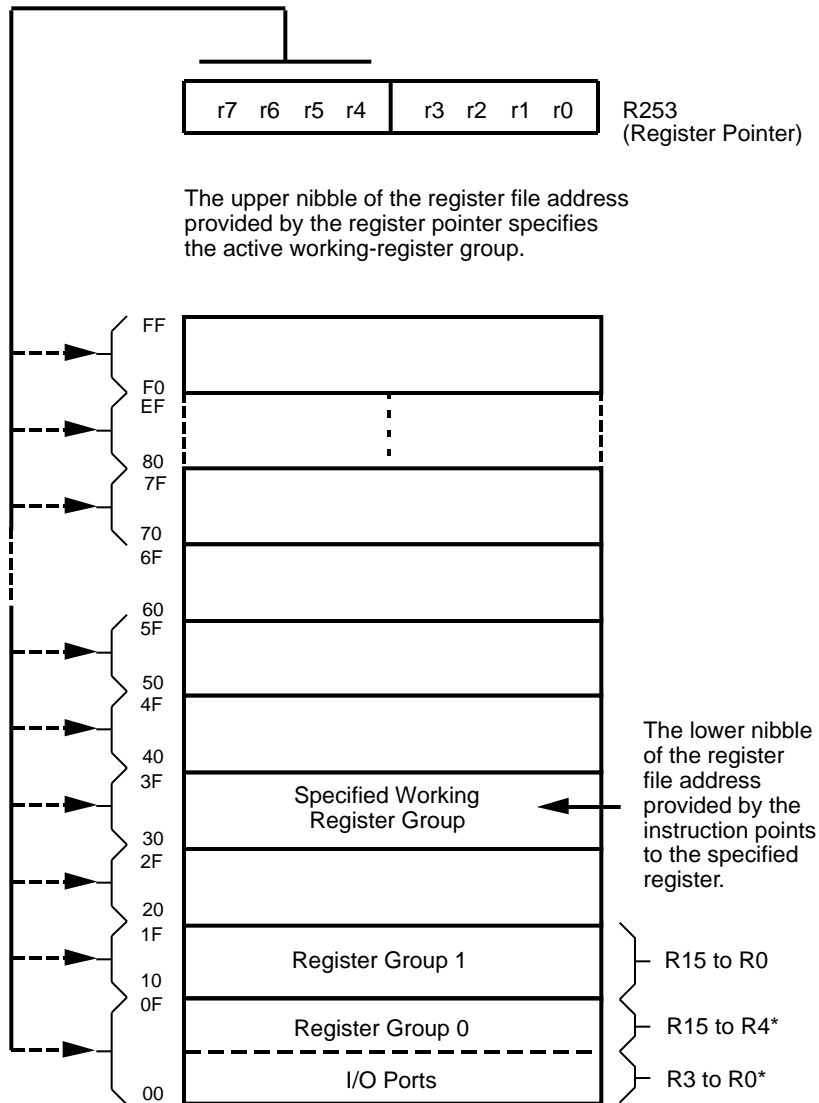

**Figure 24. Register Pointer Register**
**Register File.** The register file consists of three I/O port registers, 236/125 general-purpose registers, 15 control and status registers, and three system configuration registers in the expanded register group. The instructions can access registers directly or indirectly through an 8-bit address field. This allows a short 4-bit register address using the Register Pointer (Figure 24). In the 4-bit mode, the reg-